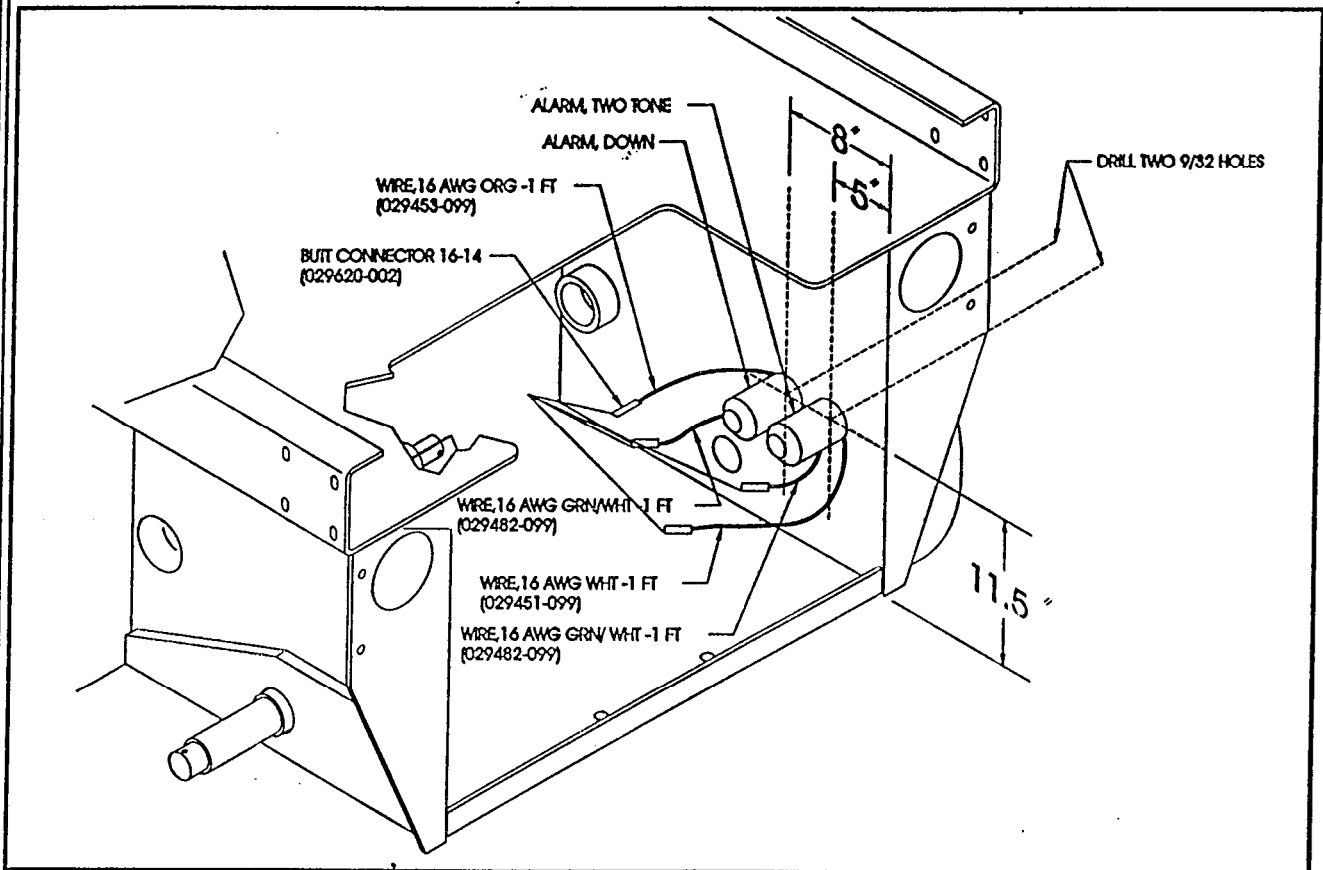

Figure 1
**PROCEDURE:** Read all instructions thoroughly and refer to figures 1 - 3 before starting. Platform must be in stowed position and machine on firm level surface.
1. Locate area for Down and Tilt alarm installation. (figure 1)
2. Drill two 9/32 holes as shown. (figure 1)